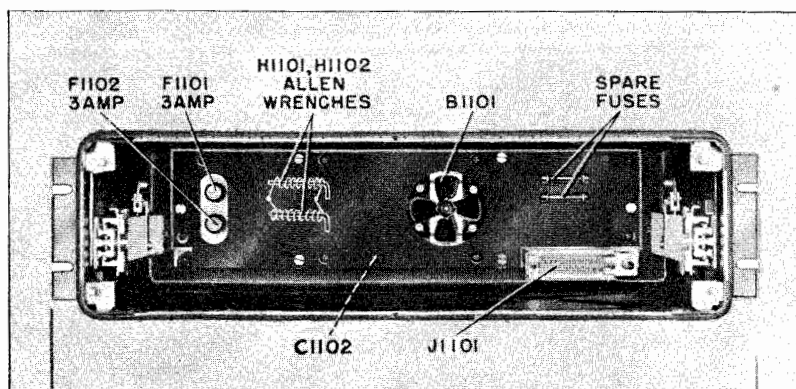

Figure 5-1. Frequency Shift Converters CV-57/URR and CV-71/URR Fuse Locations
(1) SYMPTOMS OF FUSE FAILURE.—Pilot light not lighted. Tubes will be cold when chassis is pulled from case.
(2) FUSE LOCATIONS.—The fuses are located one above the other at the left rear of the cabinet in the Cable Filter Compartment. Spare fuses will be found to the right of the fan. See Figures 5-1 and 5-2.
(3) REPLACEMENT.